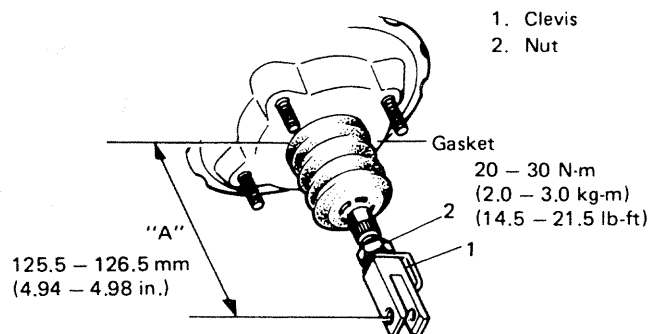

Fig. 19-91
- Check length of push rod clevis. (Refer to Fig. 19-91).